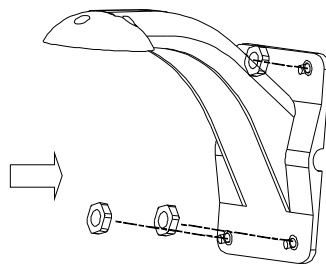

Figure 10
8. Fix the bracket on the wall (see Figure 10).